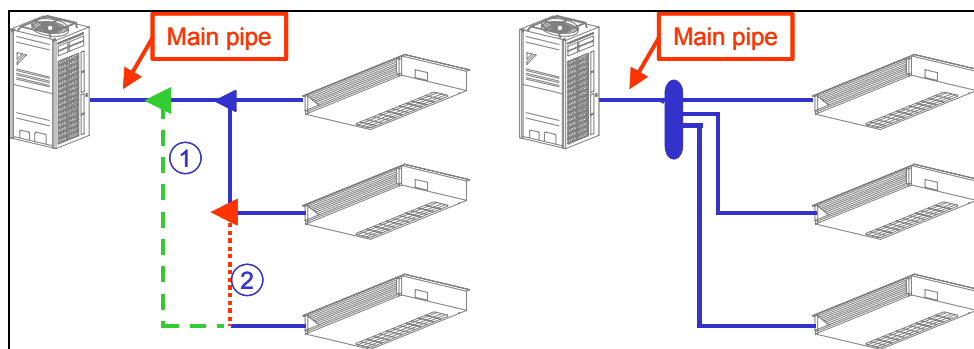

Figure 73: Small piping schemes using joints or headers
Figure 73 shows small piping schemes using joints (at the left) and headers (at the right). When using joints, several configurations are possible, depending on where you place the joints. The piping scheme at the left shows a tree-like configuration (indicated by ①) or a chain-like one (indicated by ②).